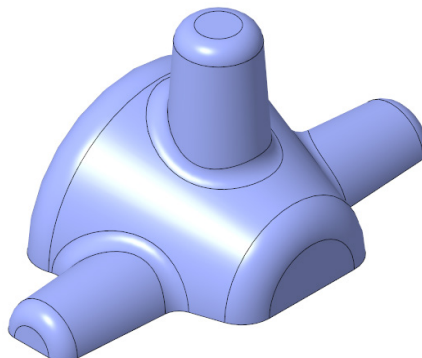
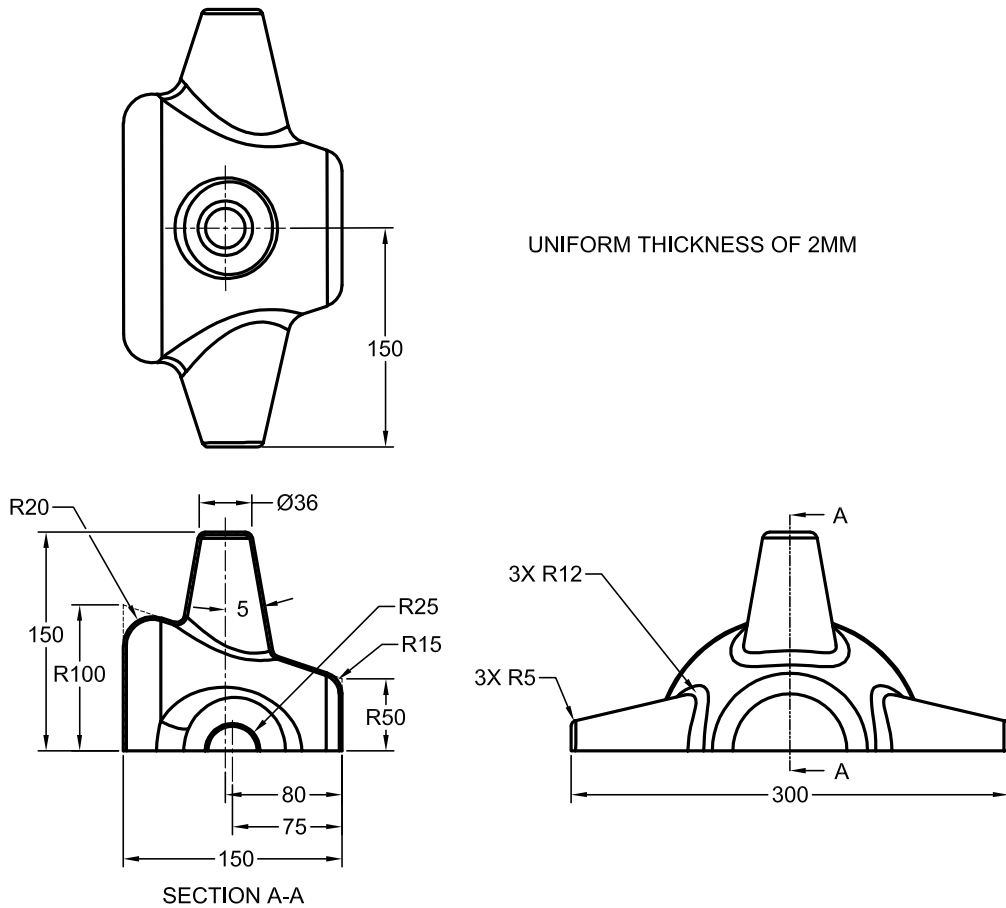

Figure 15-99 The surface model
Figure 15-100 Top, front, and right views of the surface model
In this tutorial, you will create the surface model shown in Figure 15-99. The orthographic views of the surface model are shown in Figure 15-100. **(Expected time: 45 min)**
Examine the model and determine the number of features in it, refer to Figure 15-99.
5. Sketch an arc of radius **35**; for the remaining dimensions refer to Figure 15-100 and then choose the **OK** button to exit the sketcher environment. Choose the **Insert** button from the **Section** tab and enter **150** in the offset value edit box for depth of second section. Choose the **Sketch** button from the **Sections** tab to enter the sketcher environment.
6. Sketch a circle of diameter 72; for the remaining dimensions refer to Figure 15-100 and then choose **OK** to exit the sketcher environment. Choose the **Insert** button from the **Section** tab and enter **150** in the offset value edit box for depth of second section. Choose the **Sketch** button from the **Sections** tab to enter the sketcher environment.